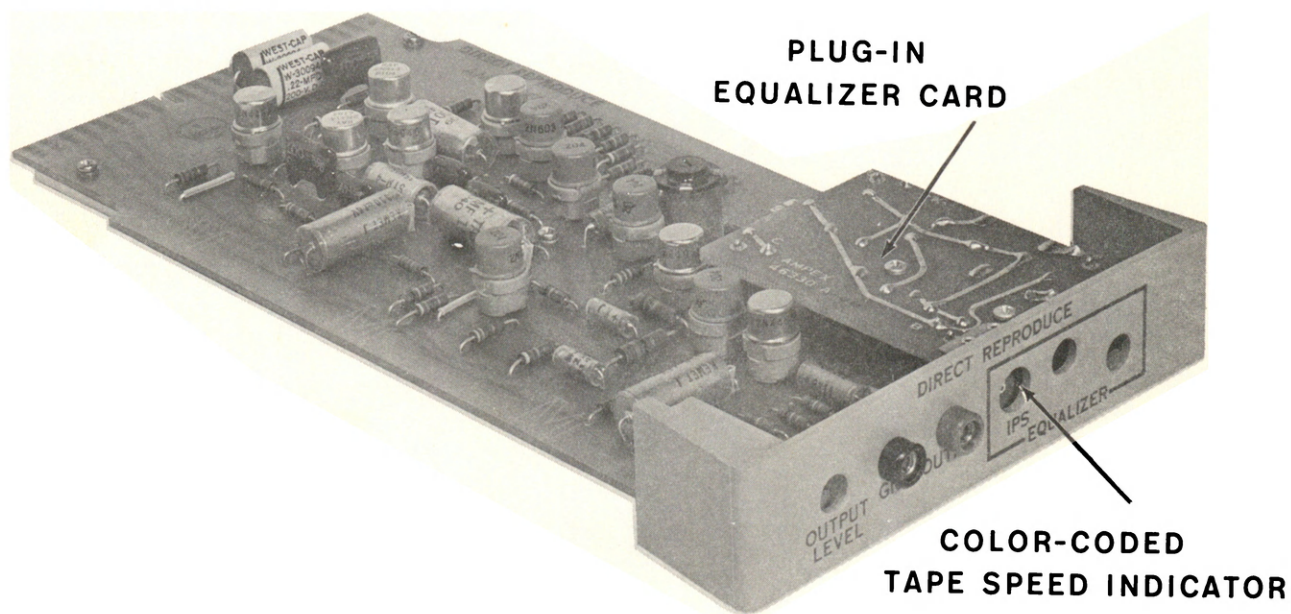

Figure 1-5. Typical Plug-in Amplifier Card
1.13 **RECORD/REPRODUCE ELECTRONICS.** The CP-100 uses solid-state electronic components throughout the equipment to provide maximum reliability and minimum weight, heat generation, distortion and drift. Record and reproduce circuits are mounted on plug-in cards, (figure 1-5) which are interchangeable with other cards of the same type. An extender card is provided with each machine to provide access to the circuits of the plug-in cards while they are operating. All test points and adjustments are available at the front of the unit.